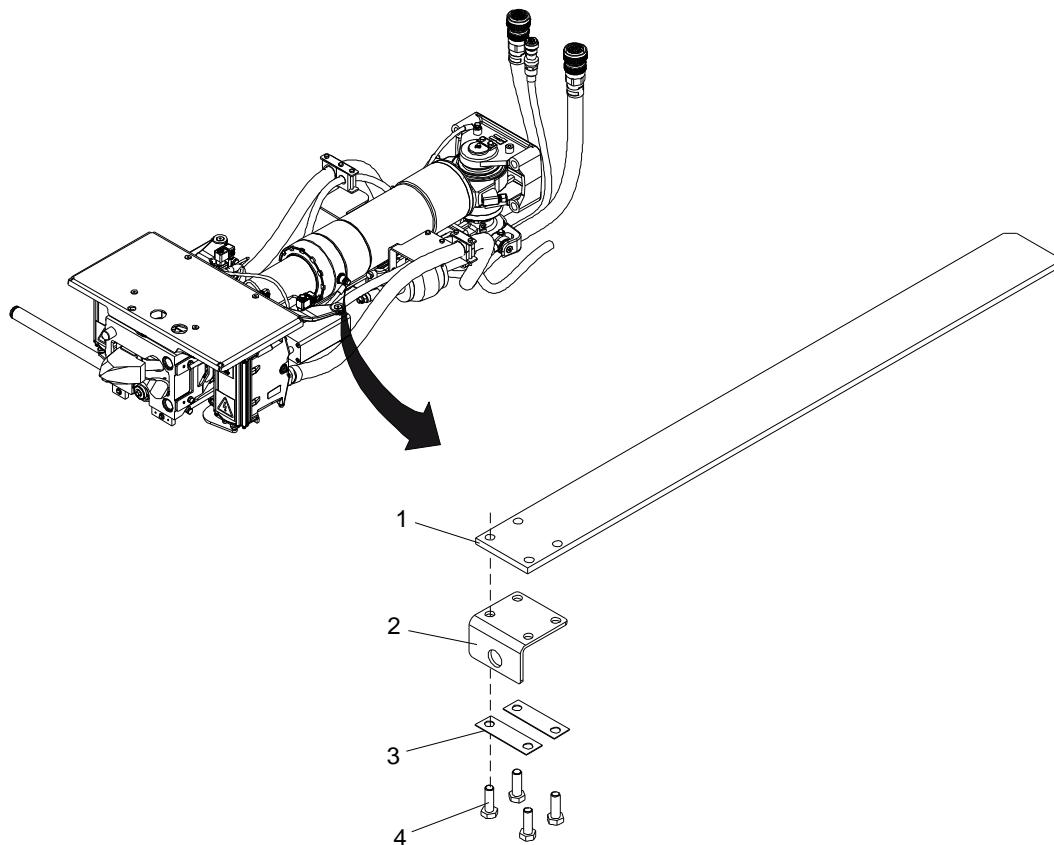

Figure 7-5: Replacement of Guide Rail
2. Remove the screws (4), locking plates (3) and ball valve attachment plate (2). See Figure 7-5.
3. Pull out the guide rail (1).
3. Fit the guide rail (1) into the bracket and mount the ball valve attachment plate (2), locking plates (3) and screws (4). Bend two corners of the locking plates up against the screw heads to secure the screws. See Figure 7-5.